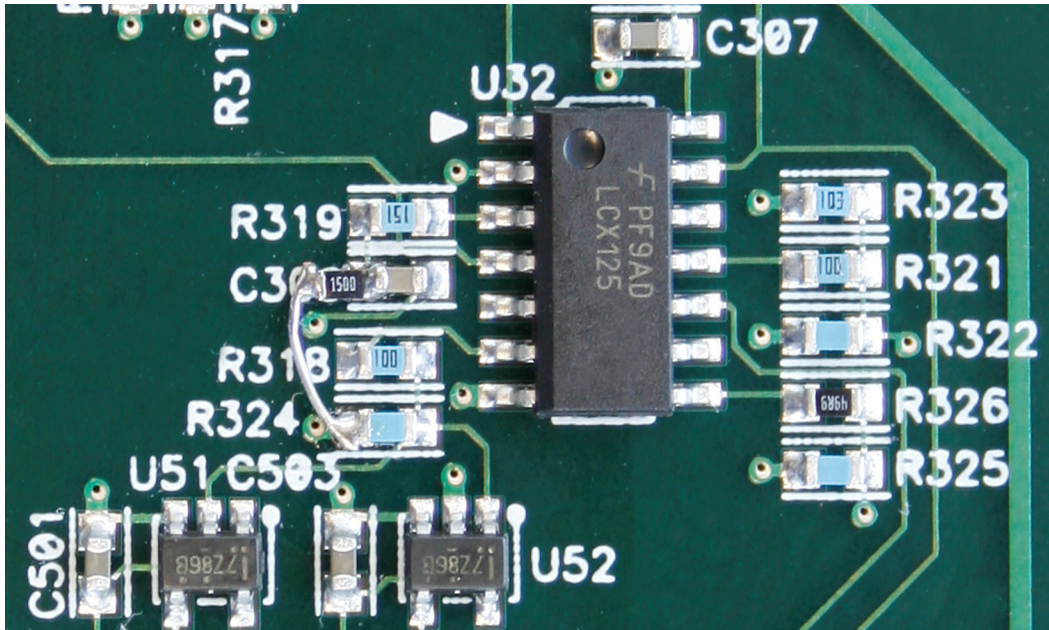

Figure 3 BAES modification close-up.
4. Change R319 to from 49.9 Ohms to 150 Ohms, as shown in figure 3.
5. Add a new 150 Ohm resistor (R327) next to C306, as shown in figure 3.
6. Add a jumper wire between R327 and R324 as shown in figure 3.